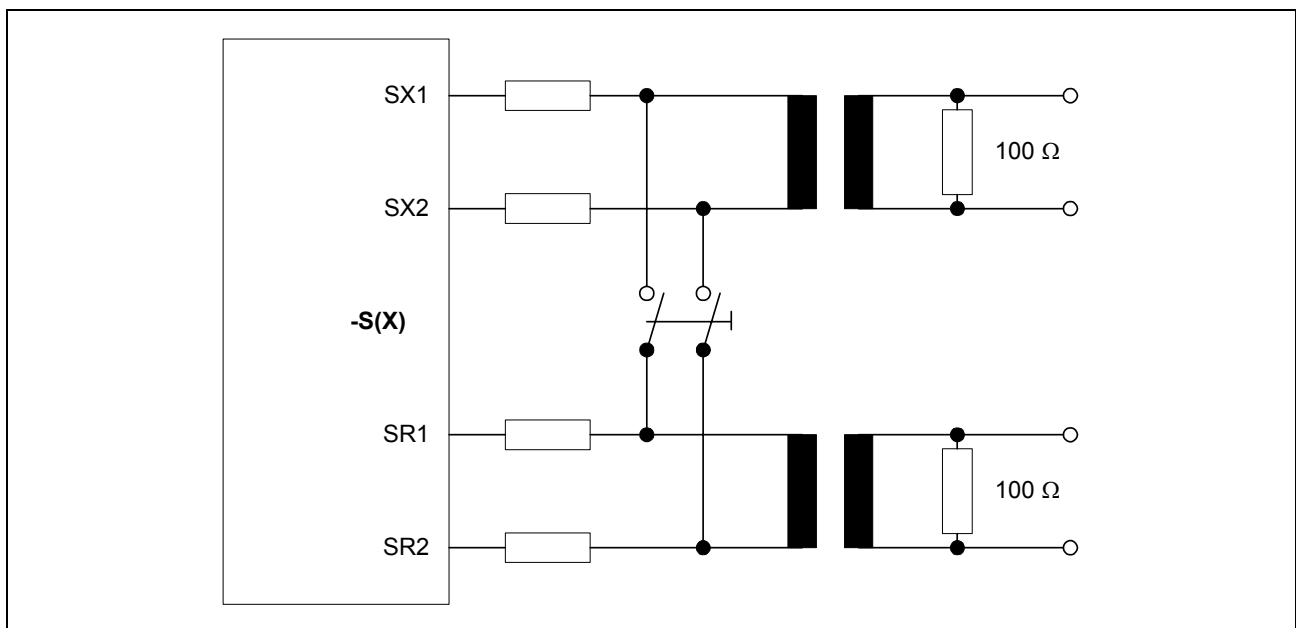

**Figure 33 External Loop at the S/T-Interface**
- The **external local loop** (external Loop A) is activated in the same way as the internal local loop described above. Additionally the EXLP bit in the TR\_CONF0 register has to be programmed and the loop has to be closed externally as described in Figure 33. The S/T interface level detector is disabled. This allows complete system diagnostics.